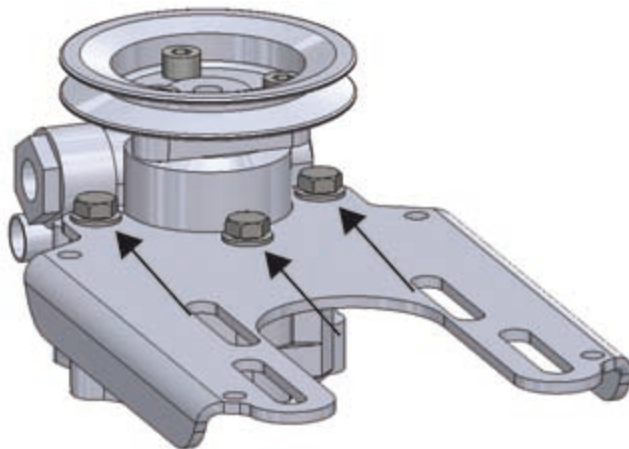

Figure 74. Hydraulic pump fastening screws
3. Remove the hydraulic pump from the bracket by opening its fastening screws (3 pcs, figure 74).
1. Mount the hydraulic pump in the bracket using fastening screws (figure 74).